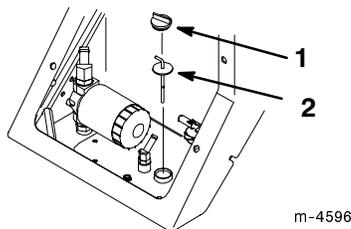

Figure 9
- Clean the area around the filler neck of the hydraulic tank (Fig. 9).
- Remove the cap from the filler neck and check the fluid level on the dipstick (Fig. 9).